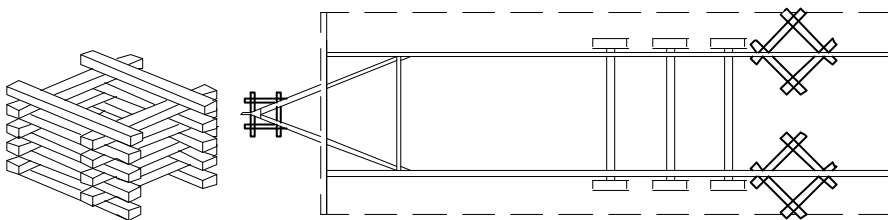

Figure 17. Stack 4" x 6" by 5' long timbers as shown to form safety timbers. Place safety timbers under home behind axle area and under hitch.
Utilize proper cribbing. Manufactured homes weigh several tons. No one should be under the home (whether it is moving or stationary) unless proper cribbing is in place (**Figure 17**). Failure to utilize proper cribbing may result in serious injury or death.
- Make sure adequate safety cribbing (**Figure 17**) is in place whenever the home is placed on jacks.
2. **Install cribbing.** Install safety cribbing (**Figure 17**).